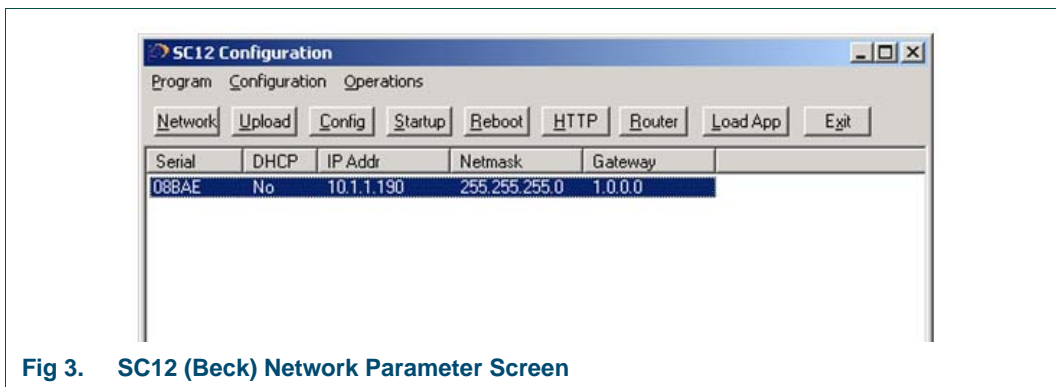

Fig 3. SC12 (Beck) Network Parameter Screen
9. The screen in Fig 3. will be displayed after a few seconds: